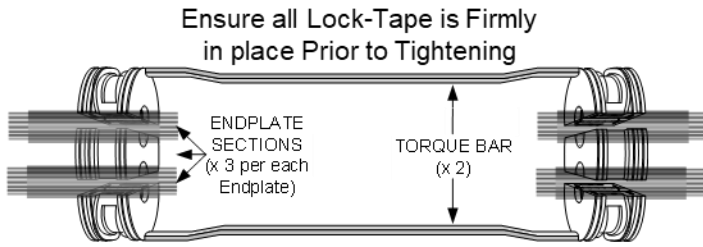

Figure 14
10.13 At this point, preparation work on the End Plate Sections is complete and ready for tube cable installation. **See Fig. 14.**